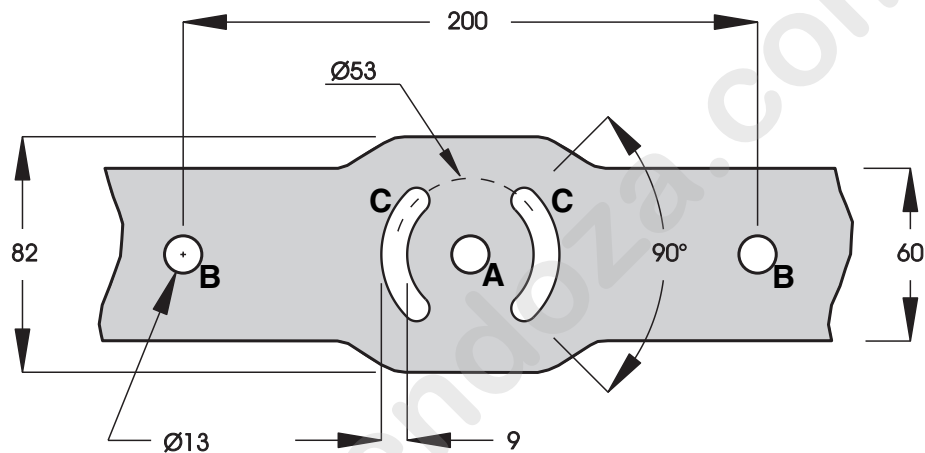

Figure 6: Mounting yoke attachment points
The yoke must be fastened to the installation surface using minimum three fasteners. If there is a danger that the fixture may cause injury or damage if it falls, a securely anchored safety cable that is approved for the weight of the fixture must be looped through one of the holes in the yoke base marked A, B or C in Figure 6 on page 14.
See Figure 6. To mount the fixture:
1. Attach a safety cable that is approved for the weight of the fixture to a secure anchoring point such as an eyebolt in the installation surface and loop it through one of the holes in the yoke base shown as **A**, **B** or **C** in Figure 6.